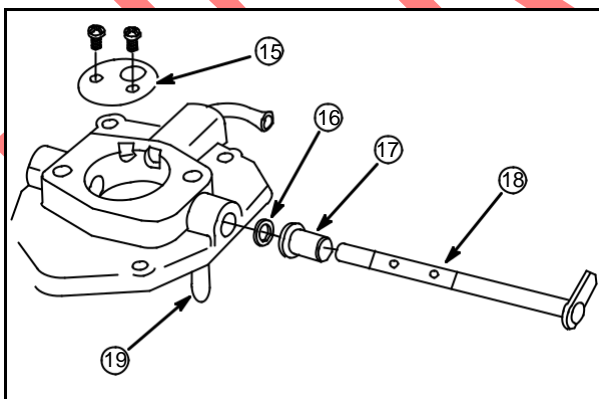

Fig. 83
Support upper body on a vise or wood block so that emulsion tube (19) will not be damaged, **Fig. 83**.